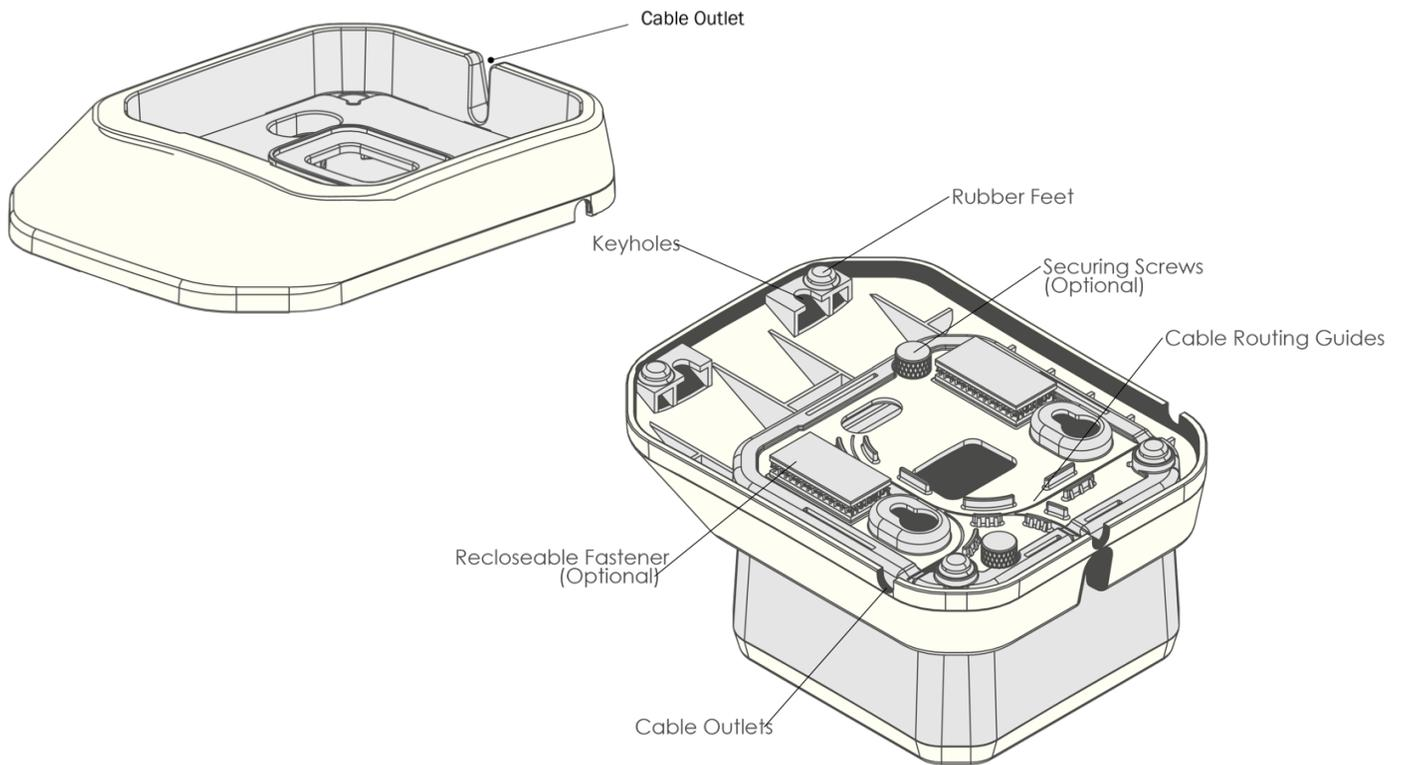
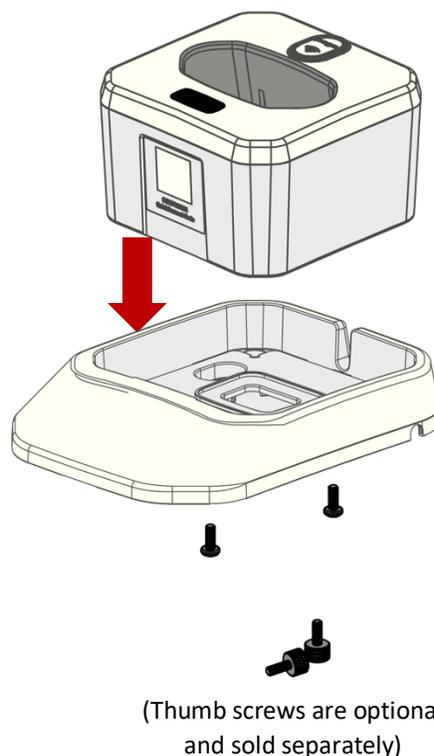
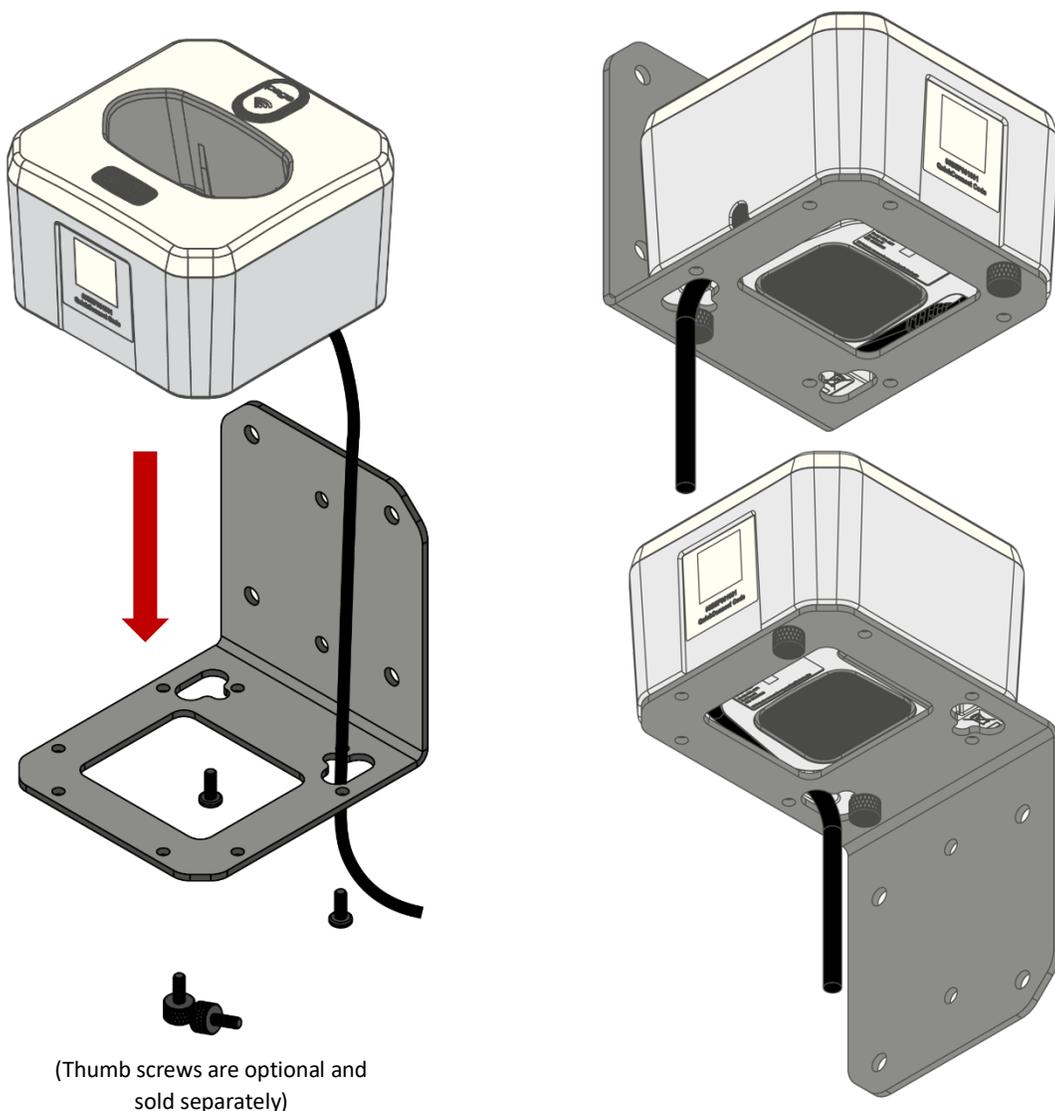

Figure 4 CRA-MB6 Desktop Base Features
Figure 8 Install and Secure Desktop Base CRA-MB6
Figure 9 Install Charging Station with Wall Mount Bracket CRA-WMB4
**5.8.2** Run the cable along the cable routing guides on the bottom of the charging station. If the charging station will be placed into a desktop base (CRA-MB6), the cable should exit through the opening in the back of the charging station (see Figure 8). If the charging station will be mounted on a wall mount bracket (CRA-WMB4) or a VESA mount bracket (CRA-MB7), thread the cable through one of the two cable exit holes on the bracket (see Figure 9 or 10).
The Desktop Mount provides extra charger stability when the charger is free standing on a counter or desk. Place the charging station into a desktop base (CRA-MB6) (Figure 8). The charging station can be secured onto the base using two pan head screws supplied with the desktop base. The desktop base can be fastened onto a flat surface using included multi-use adhesive tape, if desired (see Figure 4 for locations to attach the tape). Additional adhesive tape (CRA-CR27-02 or CRA-CR27-10) is available as an accessory.
The charging station can be mounted onto a wall using the wall mount bracket (CRA-WMB4). Mount the bracket to a wall using four #10 (M4 or M5) size screws (not provided). The wall mount bracket can be mounted in upward or downward position depending on application (Figure 9). There are three positions that the charging station can be affixed onto the bracket. Choose a position suitable for your workflow, thread the USB cable through one of the two cable exit holes on the bracket, and attach the charging station onto the bracket using two screws supplied with the wall mount bracket. Optional thumb screws (CRA-CR27-01) are available to mount the charging station without using a screwdriver.